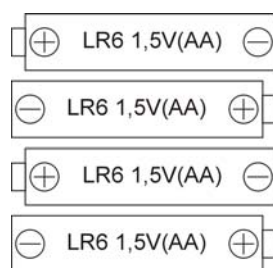

Figure 3.
- Insert 4 durable alkaline AA batteries into the Device with taking care of the right polarity (see Figure 3)